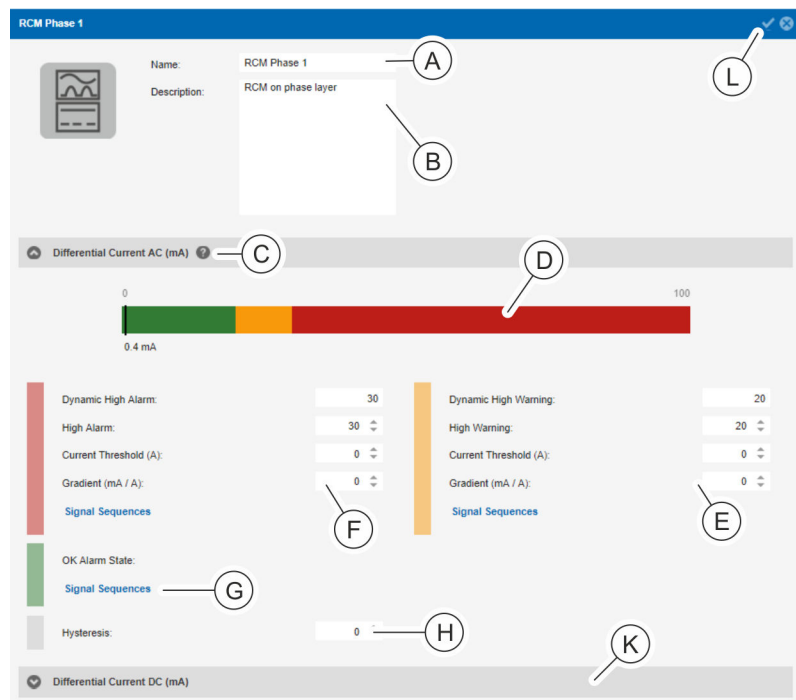

Fig. 127: Detail view
4. ➤ If necessary, adjust the name for the differential current analyser (Fig. 127/Ⓐ) in the detail view and, if necessary, add a description (Fig. 127/Ⓑ).
5. ➤ In the “Differential Current AC (mA)” area, enter a value for “High Alarm”, “Current Threshold (A)” and “Gradient (mA / A)” (Fig. 127/Ⓔ).
8. ➤ In the “Differential Current AC (mA)” area, enter a value for “High Warning”, “Current Threshold (A)” and “Gradient (mA / A)” (Fig. 127/Ⓕ) and assign a signal sequence (analogous to steps 5 and 6).
9. ➤ In the “Differential Current AC (mA)” area, allocate a signal sequence to the “OK Alarm State” parameter (Fig. 127/Ⓖ) if necessary (analogous to steps 5 to 7).
10. ➤ In the “Differential Current AC (mA)” area, enter a value for “Hysteresis” (Fig. 127/Ⓗ).
- 11.** Repeat steps 5 to 10 for the "Differential Current DC (mA)" range (Fig. 127/©).
A "current threshold" and "gradient" cannot be set for "Differential Current DC (mA)". The threshold values for DC monitoring are displayed in colour (Fig. 127/©).
- 12.** Confirm the selection by clicking the "Save" (Fig. 127/©) button.
The "Dynamic High Warning" or "Dynamic High Alarm" is calculated automatically. Click the question mark (Fig. 127/©) to open a diagram explaining the dynamic RCM threshold value (Fig. 18).